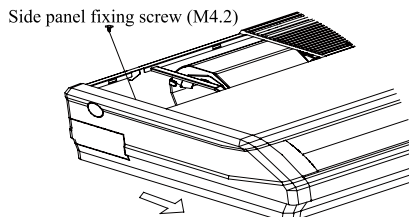

Fig.42
- ② . Remove the side panel fixing screws and remove it away by pulling it out at the front direction (arrow direction). (See Fig.42)